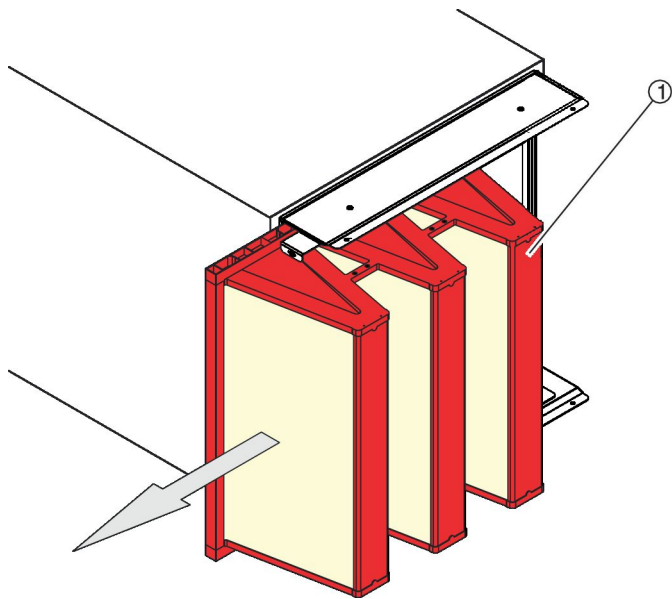

Fig. 26: Removing the filter element
5. ▶ Pull out the filter element (Fig. 26 /1) sideways.